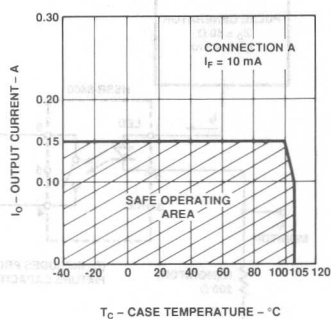
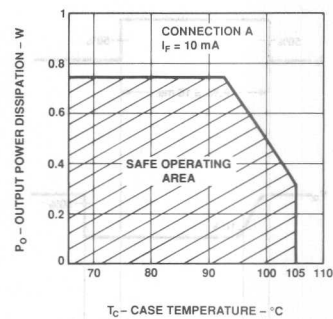

Figure 2B. Maximum Average Output Current Rating vs. Case Temperature.
Figure 3. Output Power Derating vs. Case Temperature.
- For derating, see Figure 3. The output power  $P_O$  derating curve is obtained when the part is handling the maximum average output current  $I_O$  as shown in Figure 2.
Derating curves are shown in Figures 2 and 3. Figure 2 specifies the maximum average output current allowable for a given ambient or case temperature. Figure 3 specifies the output power dissipation allowable for a given case temperature. Above a case temperature of  $93^\circ\text{C}$ , the maximum allowable output current and power dissipation are related by the expression  $R_{SS} = P_O(\text{max})/(I_O(\text{max}))^2$  from which  $R_{SS}$  can be calculated. Staying within the safe area assures that the steady state junction temperatures remain less than  $125^\circ\text{C}$ . As an example, for a case temperature of  $100^\circ\text{C}$ , Figure 3 shows that the output power dissipation should be limited to less than 0.5 watts. A check with Figure 2B shows that the output current should be limited to less than 150 mA. This yields an  $R_{SS}$  of  $22\ \Omega$ .